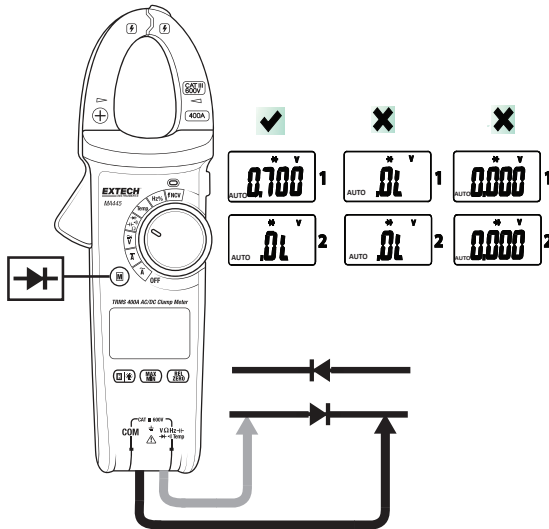

Fig. 10 – Diode Testing
3. Insert the black test lead banana plug into the negative (COM) jack and the red test lead banana plug into the positive (V) jack. See Fig. 10.